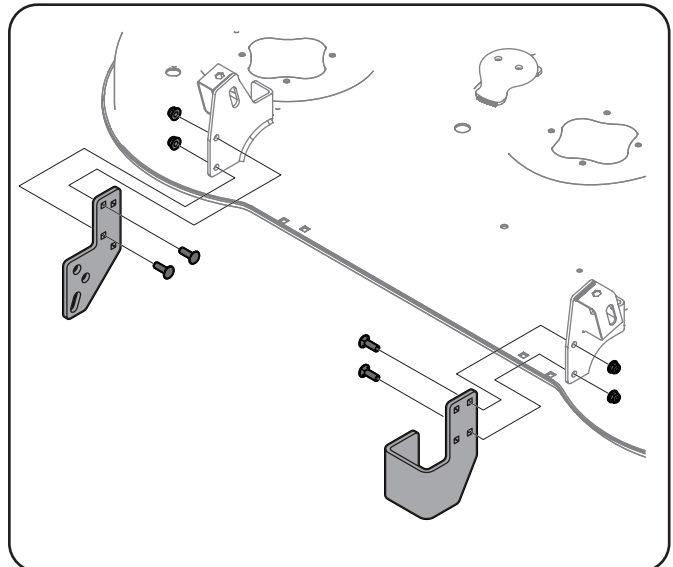

Figure 1-10
- Install the Left and Right Roller Brackets (#6 & #7) to the location shown in Figure 1-10 on the Tractors deck with two Carriage Bolts (#1) and two ½ Lock Nuts (#3) per side. See Figure 1-10.